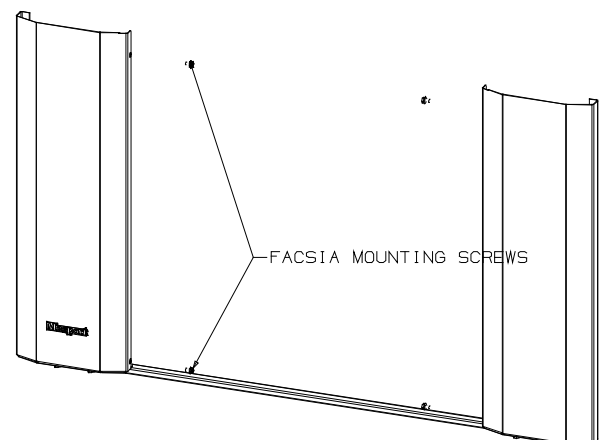

Fig 3.
- 9) Offer the fascia assembly up to the case once more and connect the green earth wire to the tab on the control valve then secure the fascia through the two holes on the inner edges of each fascia side panel using the self tapping screws provided. See Fig 3.